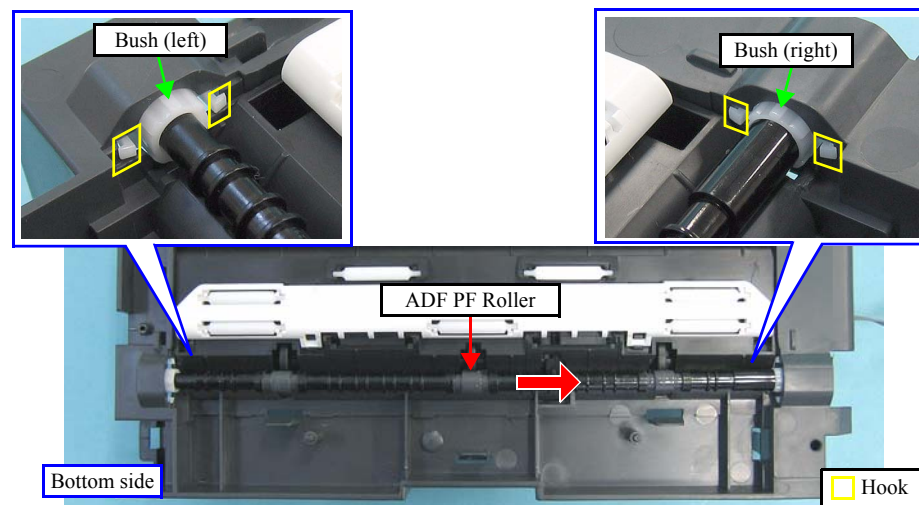

Figure 4-126. Removing the ADF PF Roller (2)
1. Attach the bush (left) to the ADF Base, and secure it with the hooks. (See Figure. 4-126.)
2. Insert the ADF PF Roller into the ADF Base, and secure it to the bush (left). (See Figure. 4-126.)
3. Attach the bush (right) over the ADF PF Roller, and secure the bush to the ADF Base with the hooks. (See Figure. 4-126.)